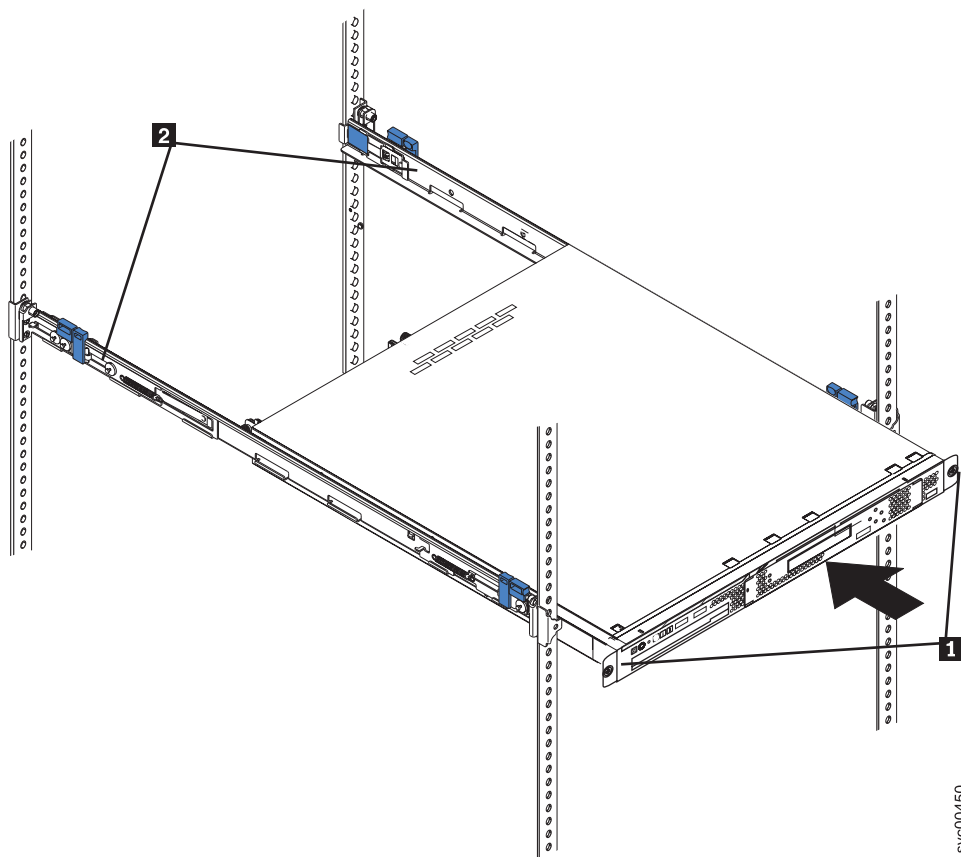

Figure 33. The captive thumbscrews that secure the node and the shipping brackets
3. Loosen the captive thumbscrews (**1** in Figure 33 on page 51) that secure the node to the front mounting flanges.